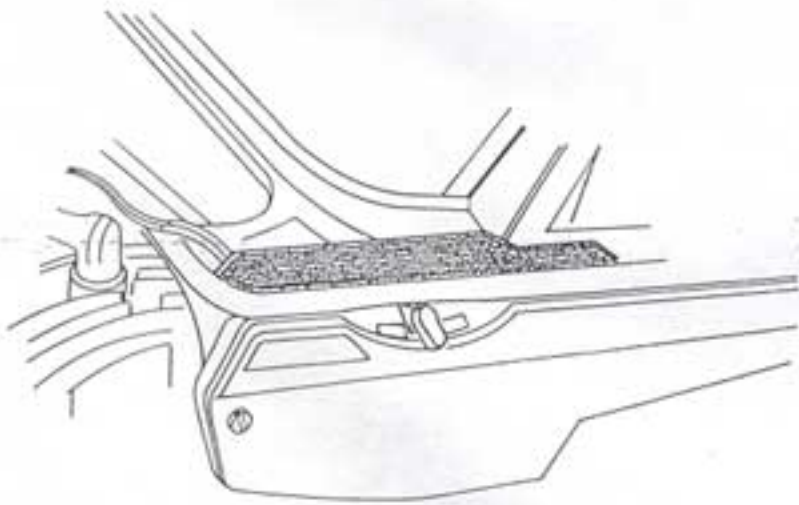

Fig. 1
- Remove the L.H. black plastic cover (fig. 1).